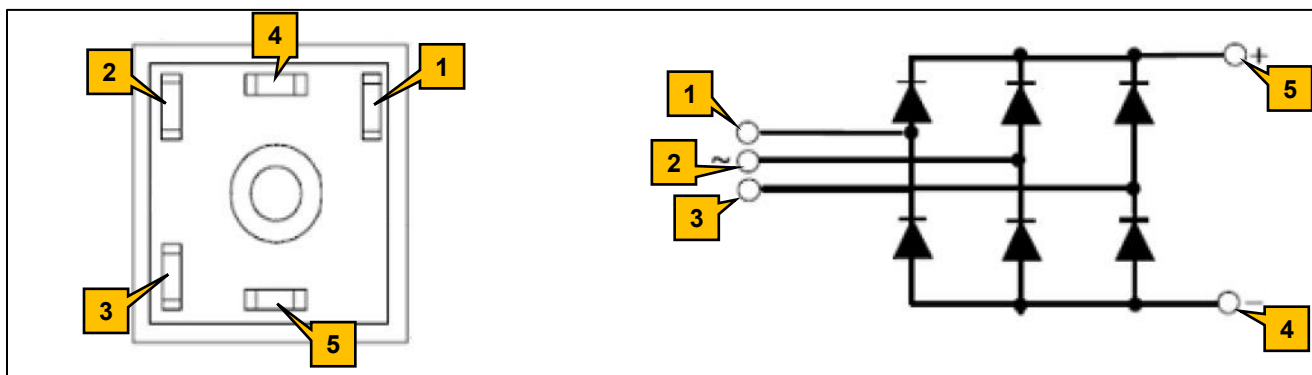

Figure 11
- ☐ With the ground lead of the multimeter connected to pin 5, connect the positive lead to the pins below and verify the voltages are within the specified range (If any pin produces a short or open circuit, the bridge rectifier has failed) (Figure 11)
- ☐ With the positive lead of the multimeter connected to pin 4, connect the negative lead to the pins below and verify the voltages are within the specified range (If any pin produces a short or open circuit, the bridge rectifier has failed) (Figure 11).